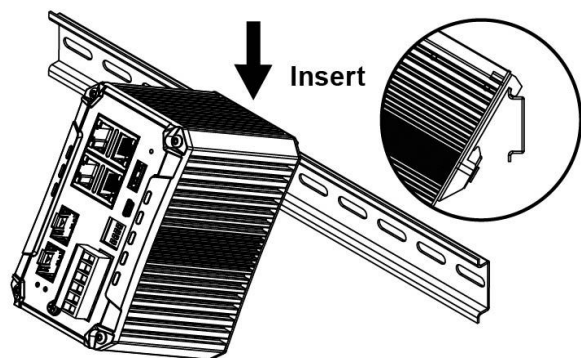

Figure 3.2 - Insert the Switch on the DIN-Rail
3. After the DIN-Rail bracket is installed on the rear side of the switch, insert the top of the DIN-Rail on to the track as shown below in *Figure 3.2*.